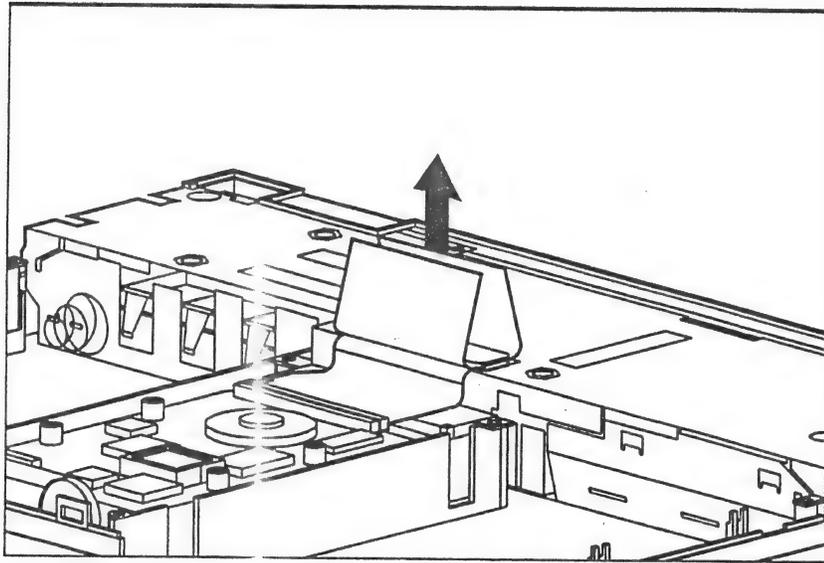

Figure 2-48. Disconnecting the Hard Drive/Speaker Cable
2. Pulling up on the pull tab, gently disconnect the hard drive/speaker cable from the system module (Figure 2-48).